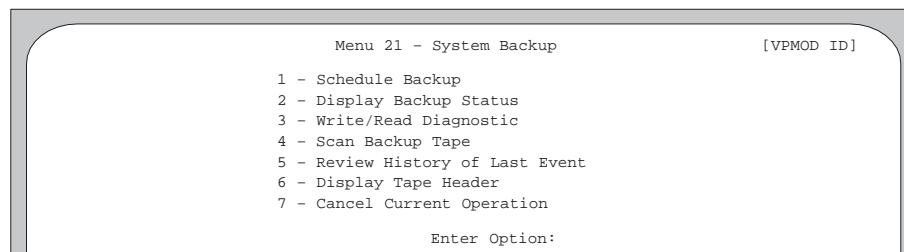

Figure 10-2. Online Menu 21 – System Backup (Aria 2.0).
Figure 10-2 shows Menu 21 – System Backup, accessed from the Main Menu for any server with Aria 2.0 software and feature option 77 enabled. You can run all of these utilities on line.
3. From the SMT Main Menu, access menu 21. The System Backup screen appears (Figure 10-2).